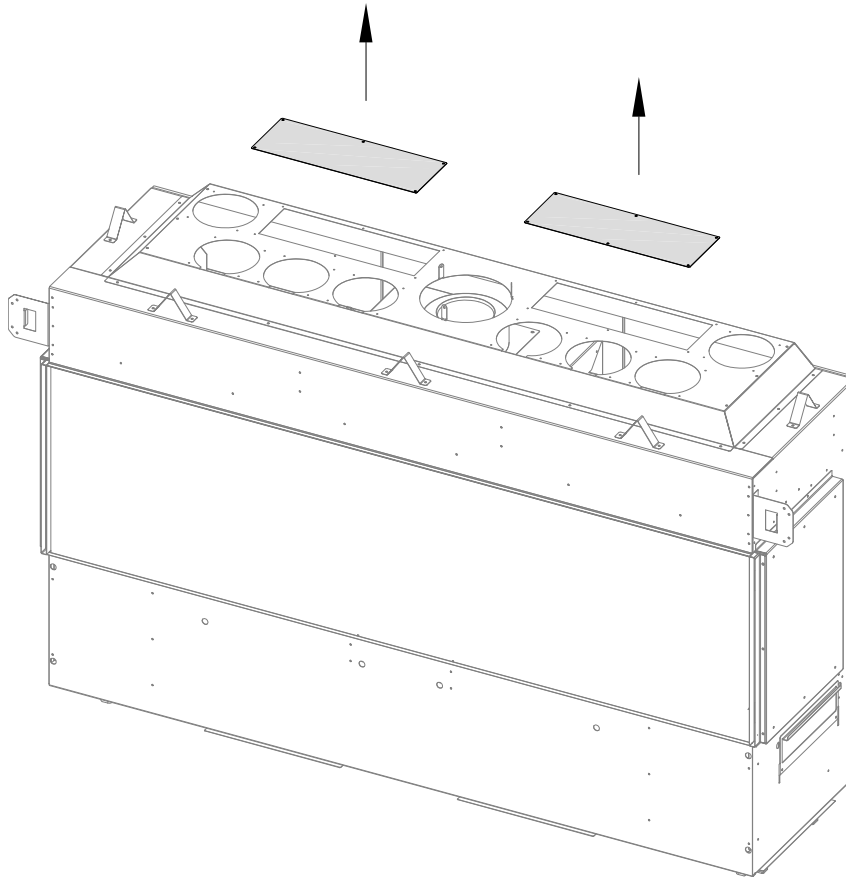

Figure 3.20 - Vented Cavity Cover Plate Removal
1. Remove the (2) rectangle cover plates located on the top of the fireplace as shown in Figure 3.20. Discard the (2) plates.